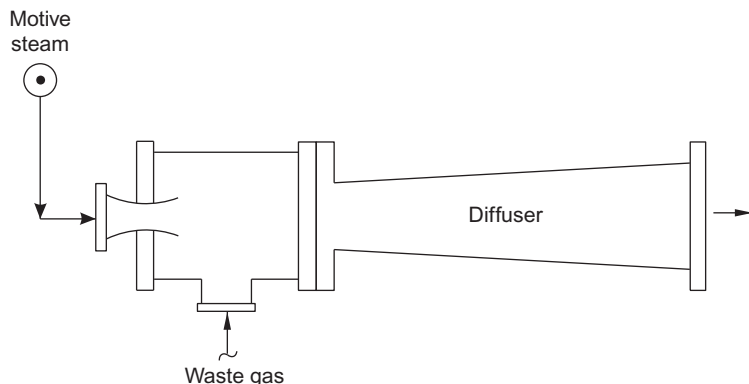

FIG. 25.3 A diverging or hogging steam ejector.
- The simple diverging jet, shown in Fig. 25.3.
Operators call the jet in Fig. 25.3, a “Hogging Jet.” It is less efficient than a converging-diverging ejector and is typically employed in intermittent services, where the cost of the motive fluid is not important. The motive steam flows into the steam nozzle at perhaps 100 ft/s. Due to the shape of the nozzle, the steam accelerates to about 10,000 ft/s. The energy to accelerate the steam is derived mainly from the temperature of the steam. What I’ve observed is that if the motive steam is:
The waste gas (Fig. 25.3) that is being evacuated is drawn into the ejector’s mixing chamber. Typically, three or four pounds of motive steam is needed to suck in one pound of waste gas.
Juan and I purchased a hogging type (i.e., single stage, diverging—Fig. 25.3) ejector. We used the natural gas from well “B” (at 2500 psig) as motive gas to boost the smaller amount of gas from well “A” (at 200 psig) up to the pipeline pressure of 600 psig.